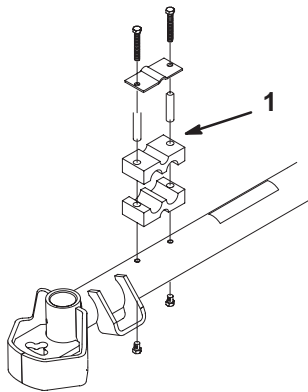

Figure 1
1. Remove and discard all hose guide components securing hoses to lift arms (Fig. 1).